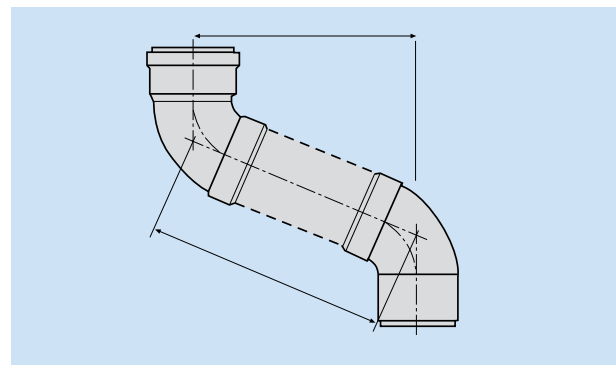

Fig. 82 Offset pipe
- Determine length of pipe required, noting minimum offsets possible (Fig. 82)